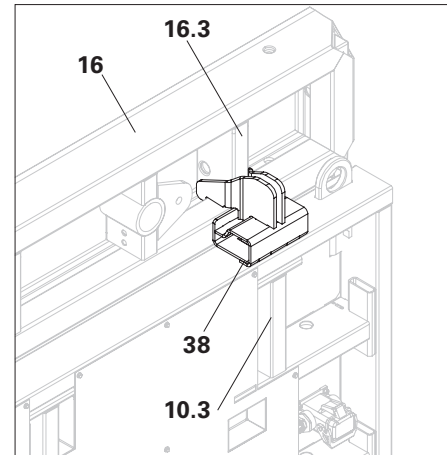

Fig. A3.12
1. Insert claws of the Adapter Connection MXH (38) in the panel strut (16.3) of the Panel MX 30 (16). (Fig. A3.12)